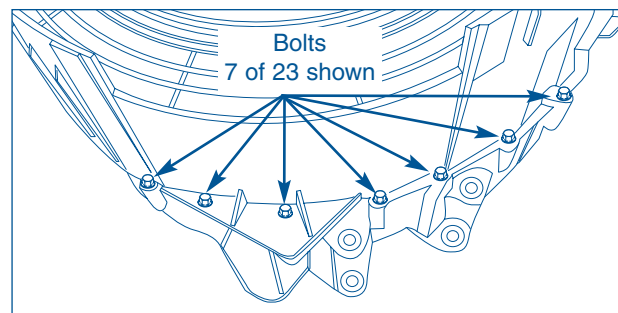

Figure 4-58.
11. Turn the tub over and remove the (23) bolts securing the two halves of the tub together. (See Figure 4-58)